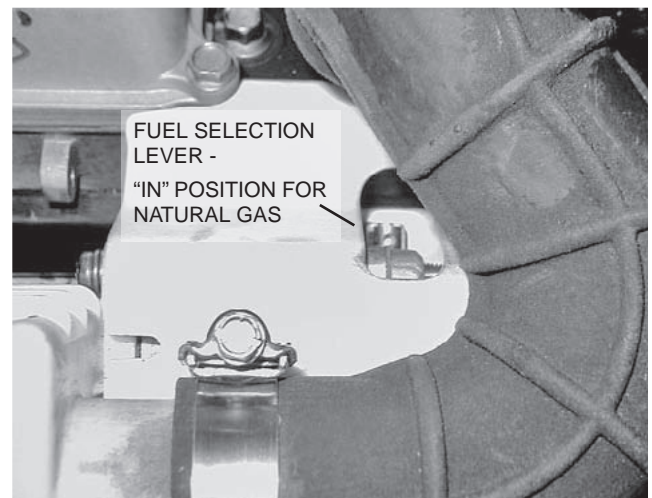

Figure 3. 9/10 kW, GT-530 (Inlet Hose Slid Back)
- Slide fuel selector on carburetor out towards the back of the enclosure (Figures 3 and 4).